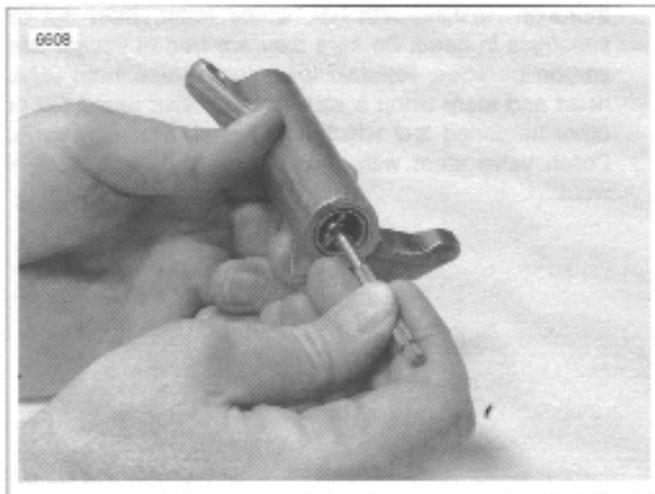

Figure 3-72. Measuring Rocker Arm Bushing Inner Diameter
- b. See Figure 3-72. Measure rocker arm bushing inner diameter.